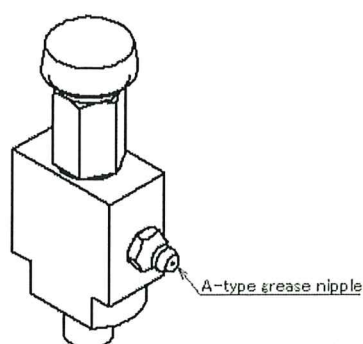

Figure. 4
- ⑤ It is also possible to supply grease with a manual grease gun or an electric grease gun from the grease nipple mounted to the grease checker. (Figure. 4)